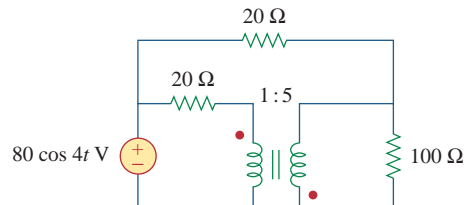

Figure 13.123
13.58 Determine the average power absorbed by each resistor in the circuit of Fig. 13.123.